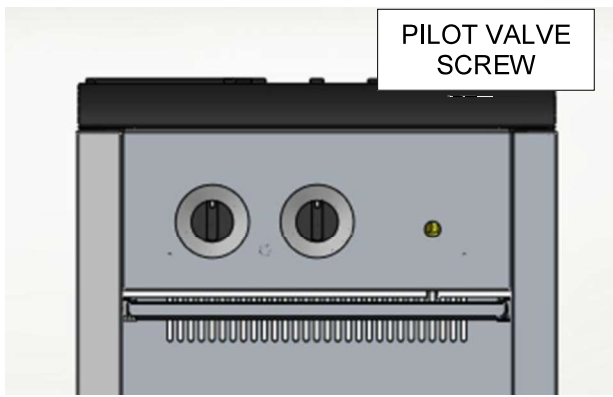
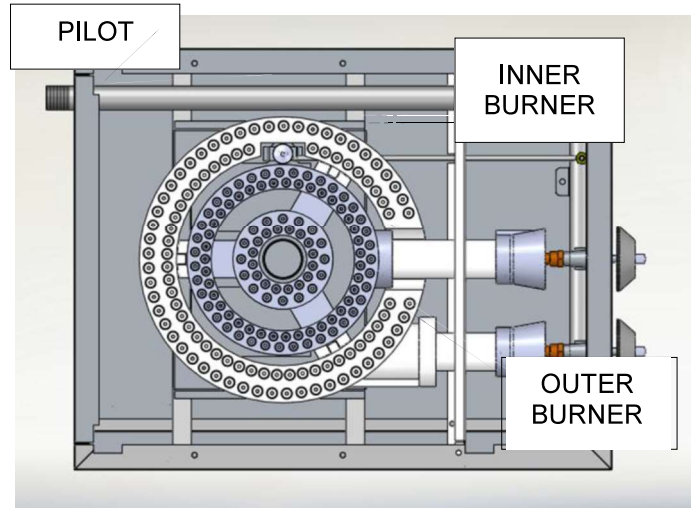

Fig.5
Fig.6
The burner is in two sections, controlled by two heavy duty infinite control valves. The center "Star" section (Fig.6) is on separate burner with an input of 40,000BTU/hr. It is controlled by the right burner valve knob. The outer circle of the burner (Fig. 6) is the other separate 40,000BTU/hr input burner, controlled by the left burner valve knob.
3. Light standing pilot with a lit taper (see Fig 6). Adjust pilot to ¼" high flame, if necessary, by turning pilot valve adjusting screw (see Fig. 5) counterclockwise to increase or clockwise to decrease flame.